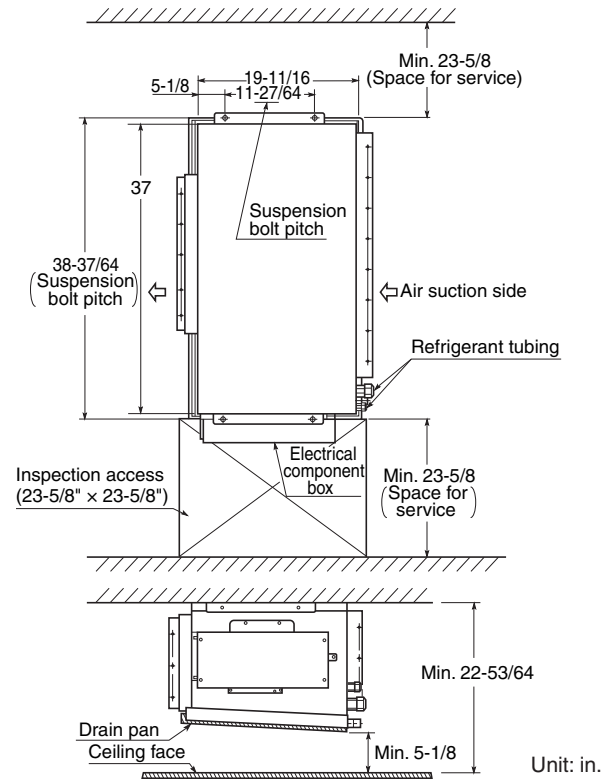

Fig. 3-118
- The minimum space for installation and service is shown in Fig. 3-118.
- (1) When placing the unit inside the ceiling, determine the pitch of the suspension bolts referring to the dimensional data given previously. (Figs. 3-118 and 3-119)